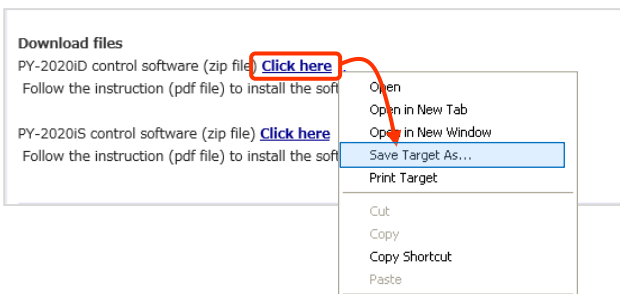

Fig. 4.1
- 4.1 Download PY-2020iD control software Ver. 3.04 from Frontier Labs webpage (<https://www.frontierlab.com/support/product-support/>). Right-click the zip file in Fig. 4.1 framed in red, then choose “**Save Target As**”.